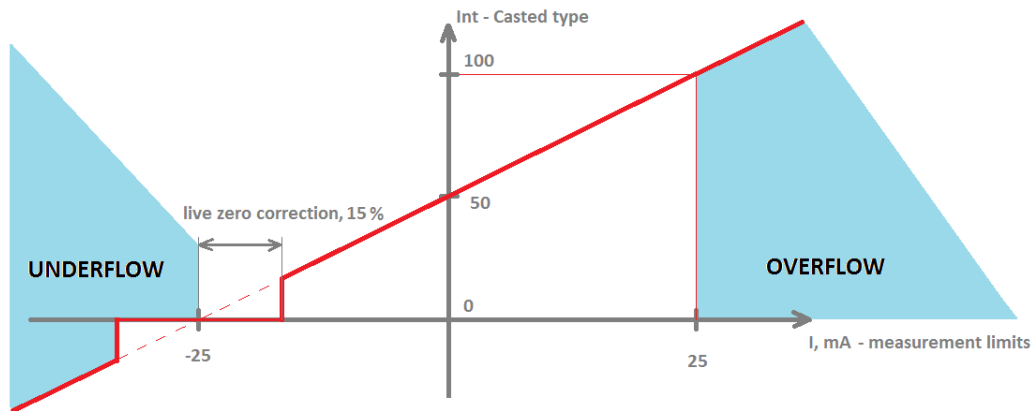

Fig. 1. Conversion graph from raw measurement to cast integer
6. Fig. 1. shows how raw measurement (current in this case) is converted to an integer type. Conversion is done by defining measurement limits (from -25mA to 25mA) and casting data range (from 0 to 100). Measurement limits define thresholds for overflow and underflow errors respectively; casting data range defines limits (from 0 to 100) that value should be between after recalculation. Such a recalculation can be used in applications that require measurements in relative units such as percentage.
A device can round measurements to lower conversion limit (in this case - to zero) if a measurement is near it:  $\pm 15\%$  of measurement value (Fig. 1.). Live zero correction is a useful option for eliminating noise. As signals always have some noise level, such an option can compensate it to get a true zero value.